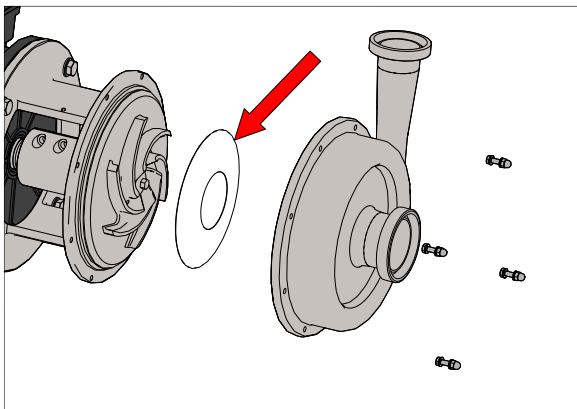

Fig. 3.4.7
After installation of the impeller, proper gap "A" between the impeller and the front casing has to be set (Fig. 3.4.7 – 3.4.9). Loosen the shaft screws [161] and using the spacer ring tool set the proper gap (A). Using the feeler (gap) gauge set the appropriate gap (B) between the retainer and the rotary seal part to adjust initial tension of the mechanical seal spring (Fig. 3.4.10).